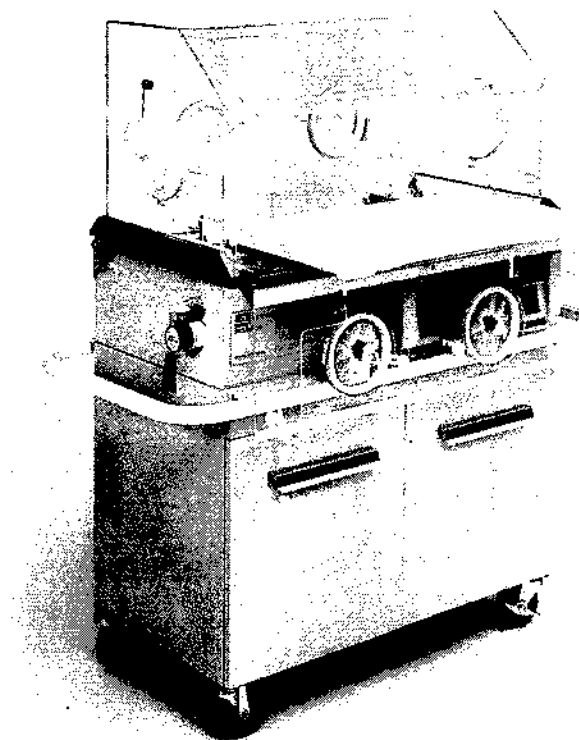

FIGURE 4.5 MATTRESS TRAY OPERATION
- J. CHECK MATTRESS TRAY** by sliding it out to the fully extended position as shown in Figure 4.5. Lean on Mattress Tray; make sure it is properly supported by the rails and baffles to provide a firm infant platform.
A. PLACE INFANT IN INCUBATOR through opened Access Panel. Mattress Tray should be pulled out to stop as shown in Figure 4.5. Return Mattress Tray to normal use position and close Access Panel. Both Access Panel Latches must be positively secured to avoid accidental opening.